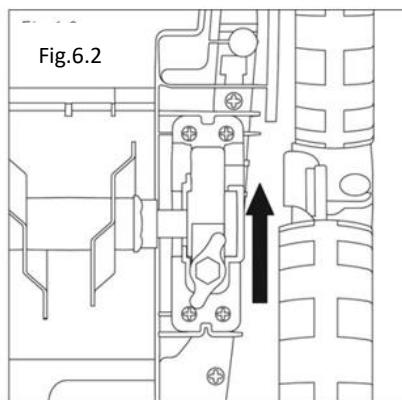

Fig.6.3
- Pull the flange of the blade system up from the coupling in the machine housing (Fig. 6.3).